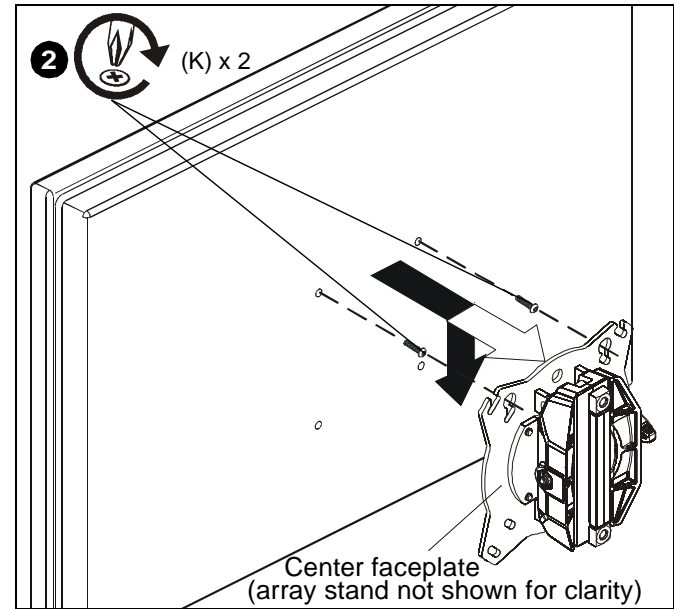

Figure 10
2. Using Phillips screwdriver, carefully install two M4 x 12mm Phillips pan machine screws (K) into the *upper* mounting holes on the display. Thread screws completely into display, then back out 3 complete turns. (See Figure 10)
3. Pick up and align display so that screws (K) (installed on the back of the display in the previous step) fit into the mounting holes on the faceplate. Lower the display firmly into place. (See Figure 10)